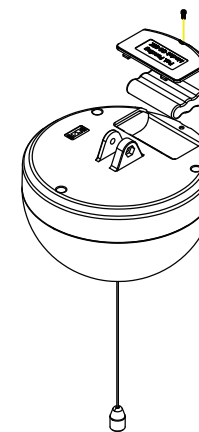

Fig. 7
1. Remove the Battery Door (2) located on back of the Main Body. (as shown in Fig. 7)
2. Make sure the Switch (4) is in "OFF" position.